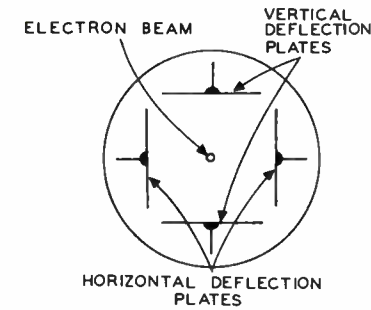

FIGURE 6
21. The horizontal deflection plates shown in Figure 6 cause the electron beam to move right or left across the crt screen.